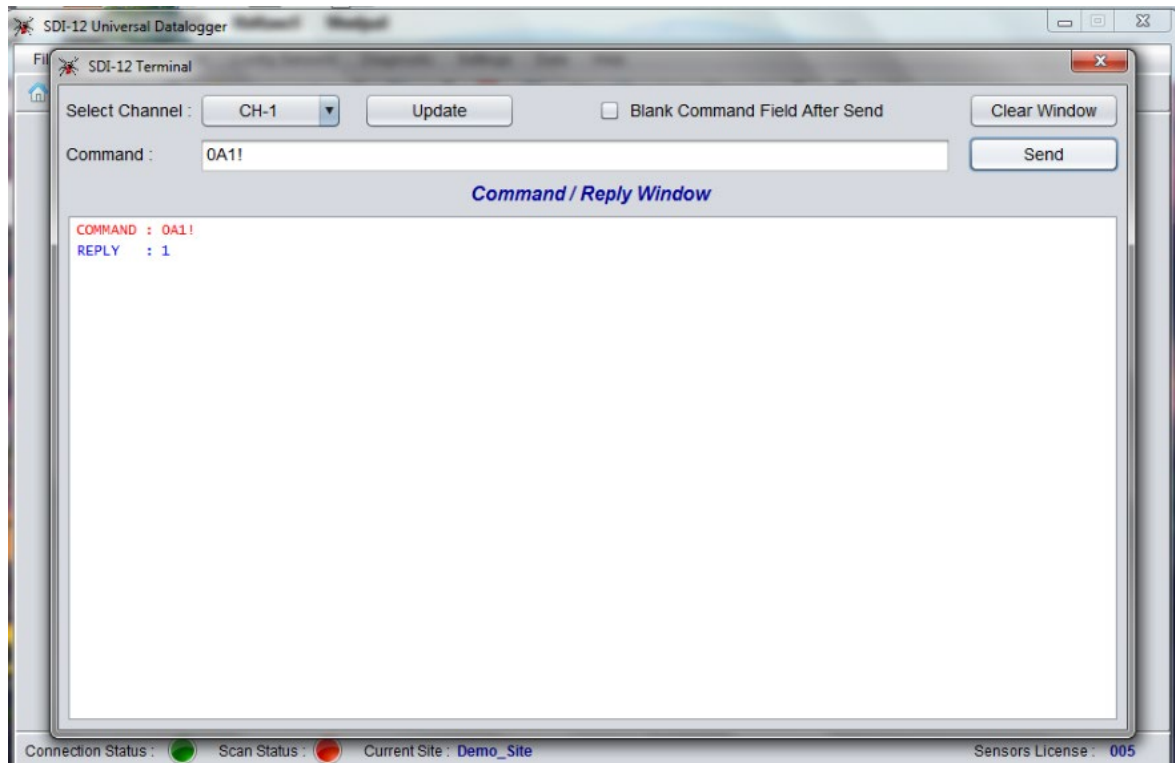

Figure 7-11 Command/Reply Window showing change in address
- 10 To change the sensor address, type “oldaddr A newaddr !” then click “Send” as shown in figure 7-11 below. Now connect other sensors to the datalogger one by one and repeat the same procedure.